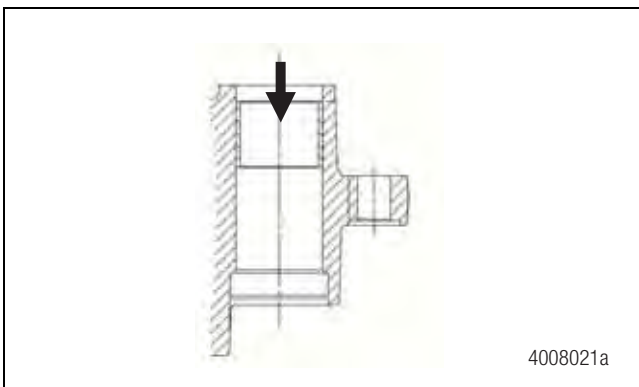

Figure 5.35
2. Insert the bushing into the housing bore from the slide pin boot retainer side of the bore. Figure 5.35.